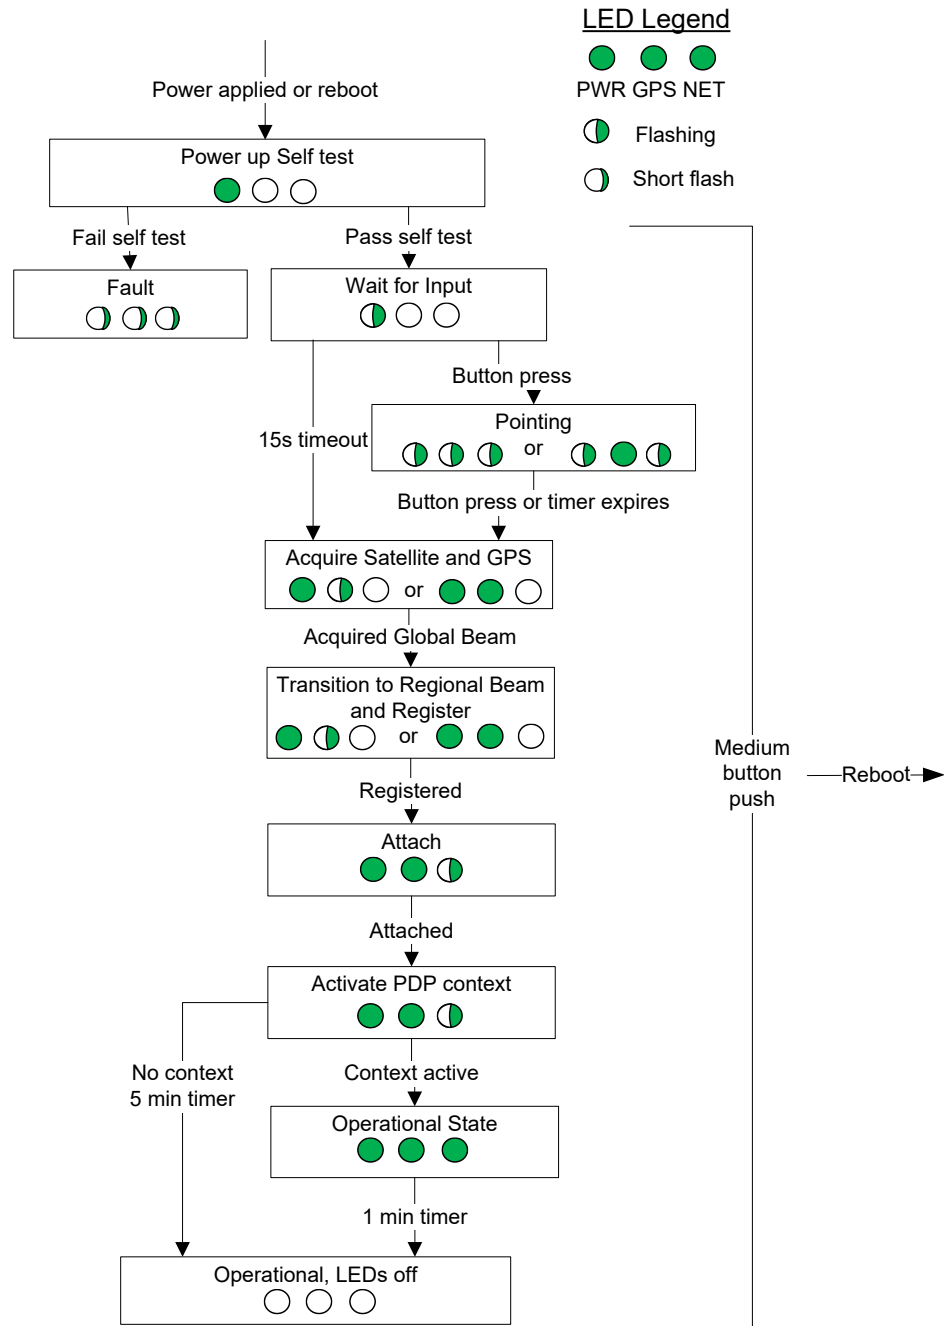

Figure 37: LED flow chart
2. Verify the unit registers, attaches, and establishes a PDP context by checking the status on the Web UI or when all three of the LEDs are solid green (Figure 37 on page 57).
3. Optionally, verify the unit will correctly recover from a power cycle by removing and reapplying power. Verify it registers, attaches, and establishes a PDP context by again checking the status on the Web UI or when all three of the LEDs are solid green (Figure 37 on page 57).